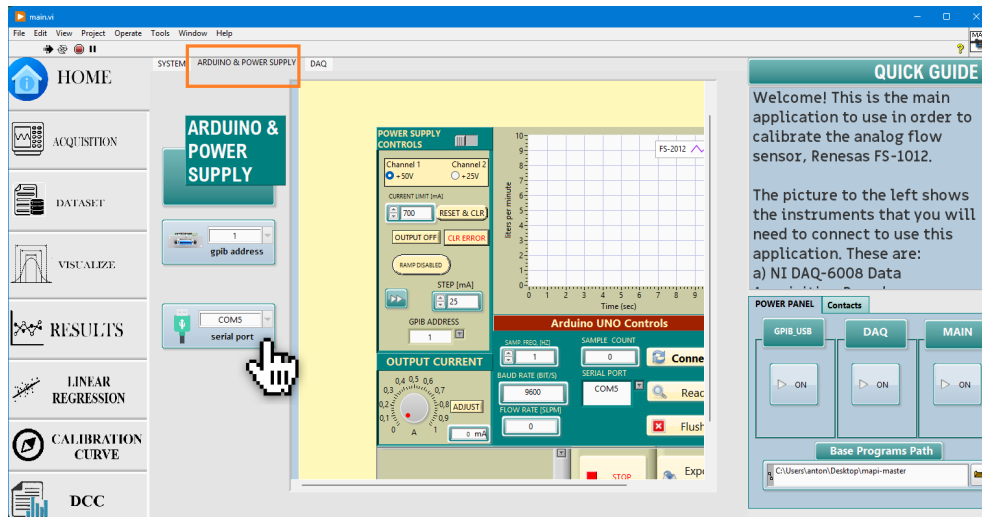

Figure 28: Setting the connection properties in the "Arduino & Power Supply" sub page on the Home Tab page.
Step 2) The *serial port* used to communicate to the Arduino UNO board, instead, has to be chosen at this moment, using the menu control located in the *HOME tab*, in the *ARDUINO & POWER SUPPLY* page. The user can navigate to this page by choosing from the inner tab selector on the front panel, as illustrated in Figure 28.